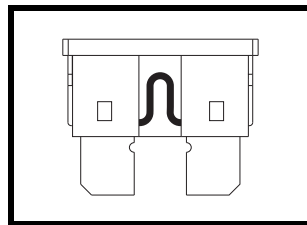

Figure 27. Working Fuse
2. Examine the fuse to be sure it is blown. See **figures 27 and 27A**.